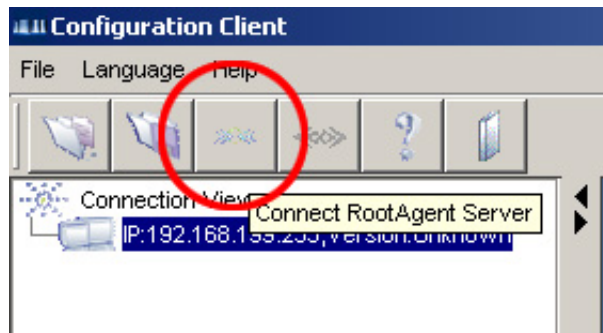
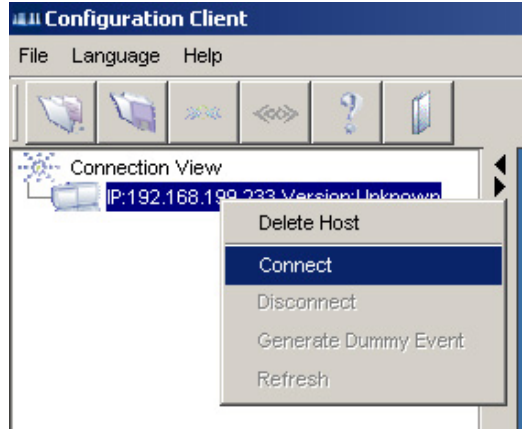

Figure 3-6: Connect Commands
Figure 3-7: Connect Commands
Step 3. The connected IP displays on the left of the **Connection View** window. Select the IP and click the **Connect Root Agent Server** icon (see **Figure 3-6**) or right-click on the displayed IP to display the **Connect** commands. (See **Figure 3-7**)